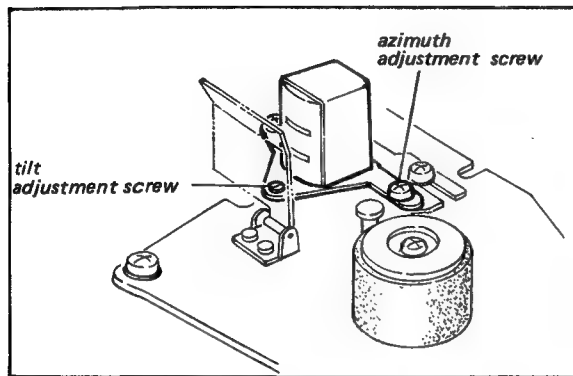

Fig. 7-1. Audio/CTL head azimuth and tilt adjustments
3. Adjust azimuth and tilt for maximum indication on the VTVM using the 7 kHz tone. See Fig. 7-1.